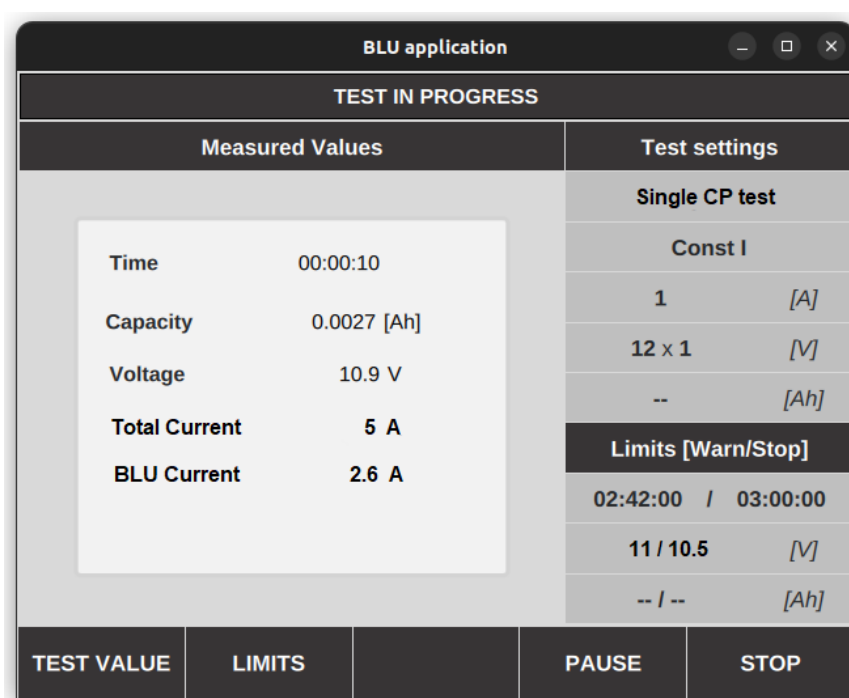

Figure 4-8: Test screen – CP Battery Current
### 1. Numerical parameters (visible on Figure 4-8)
- Total Current (5 [A] on the Figure 4-8) – selected discharge current